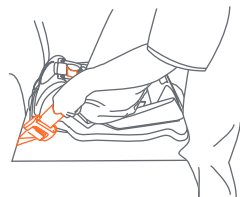

Fig. 44-2
5. Locate the **LATCH** anchors in the vehicle seat (Fig. 43-2). Once located, snap the Safety Seat **LATCH** connectors onto the steel rod. Listen for the click and check that both connectors are firmly attached to the anchor rods by pulling outward on the connectors (Fig. 44-2).
end. The webbing will automatically lock in place. **Check that there is no slack in the webbing on both sides of the base and that the base is tightly installed (Fig. 44-2 and 44-3).**